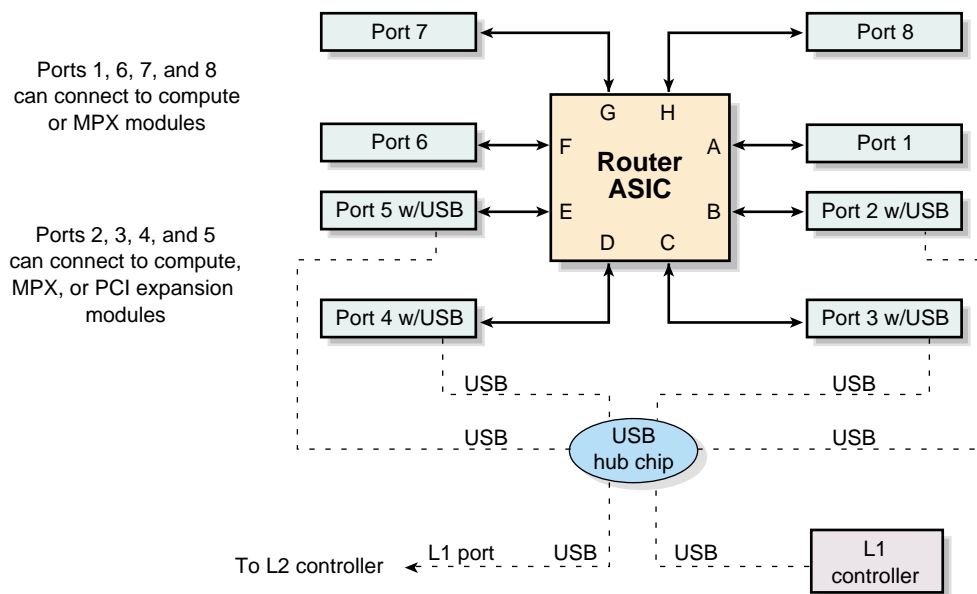

Figure 5-1 Block Diagram of NUMAlink Module
- SGI custom-designed router ASIC, which is an eight-port crossbar that connects any input-link channel to any of the seven possible output-link channels (see Figure 5-1). The NUMAlink channels operate at 1.6 GB/s (each direction).